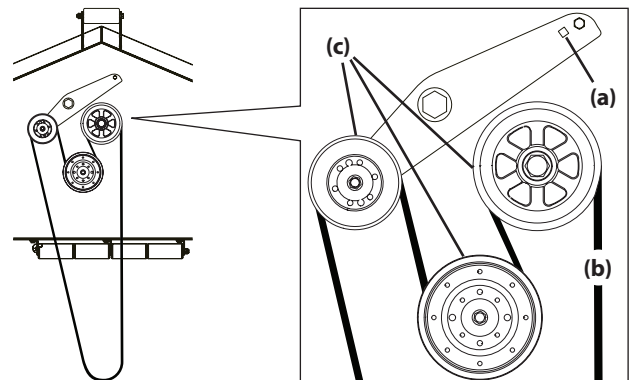

Figure 30
3. Using a 1/2" (12.7 mm) drive in the idler pulley bracket (a), turn the wrench towards the front of the mower and slide the PTO belt (b) off the PTO pulleys (c). See Figure 30.